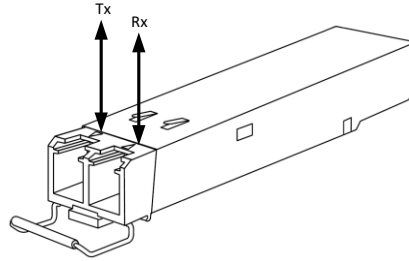

Figure 8 : SFP+ Module with TX output and RX input marked
- d. On Fiber channel 0 both the TX and RX fiber cables must be connected. On channels 1 through 3 only one fiber cable should be connected. This cable is connected between TX output (Marked with TX or Arrow outwards the SFP+) on the **KY-CL2F-D** and RX input (Marked with RX or Arrow inwards the SFP+) on the **Komodo Fiber Frame Grabber**, as shown in Figure 8.